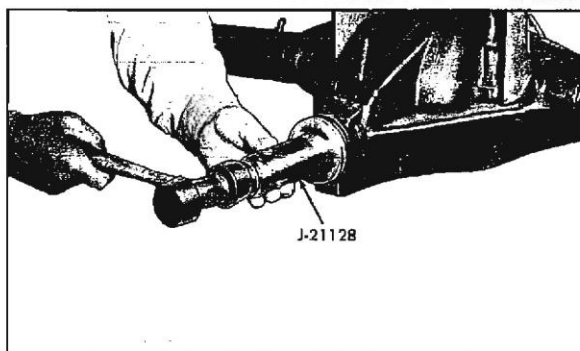

Fig. 4-9 Installing Pinion Oil Seal
9. Oil lip of new seal with clean gear lube. Coat outer diameter of seal case with suitable sealer. Install seal by tapping into place, using J-21128 (Fig. 4-9).